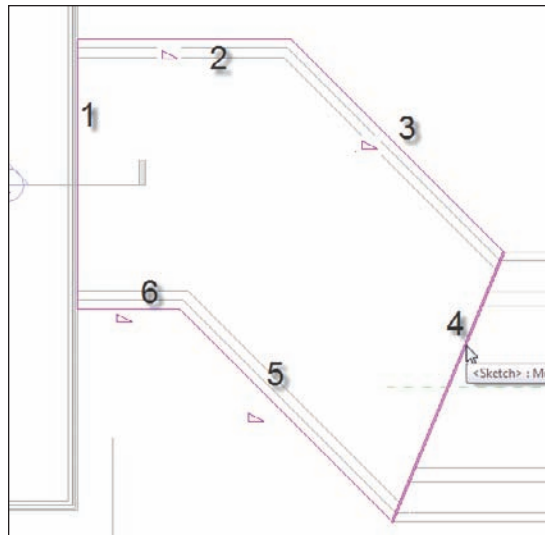

FIGURE 7.29 The new outline of the second roof
9. On your own, sketch the roof shown in Figure 7.29. Make sure the lines along the walls are defining a slope. The lines that represent the ends of the roof do not slope.
11. Review Figure 7.29 to see if your sketch matches. You should have six lines total, and the right and the left ends should not have a slope.